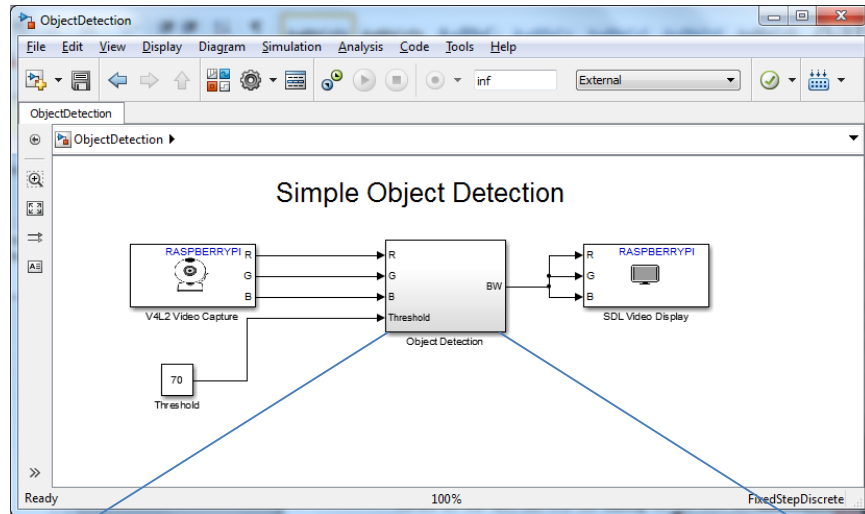

Figure 20: Object Detection Example
2. Build **ObjectDetection.slx** model as in **Figure 20 & 21**. The **Subsystem** block helps you visually organize your model and does not affect the numeric calculations or operation on the Raspberry Pi. **Inports** and **Outports** of the **Subsystem** block define the interface to the higher level in the hierarchy.